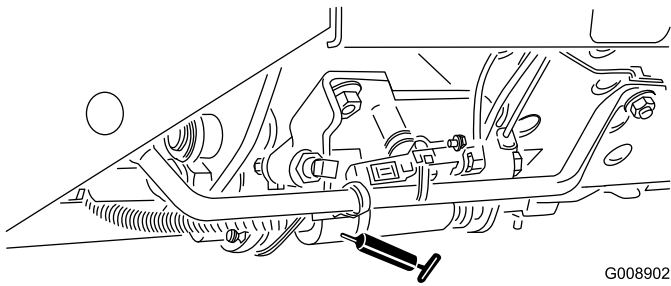

Figure 58
- Mow/transport slide (Figure 58)